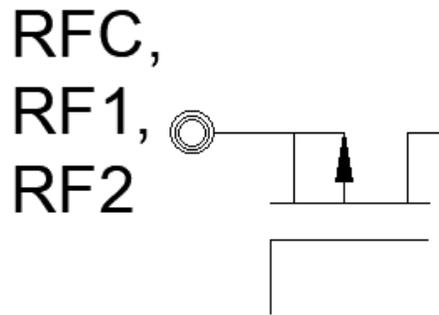
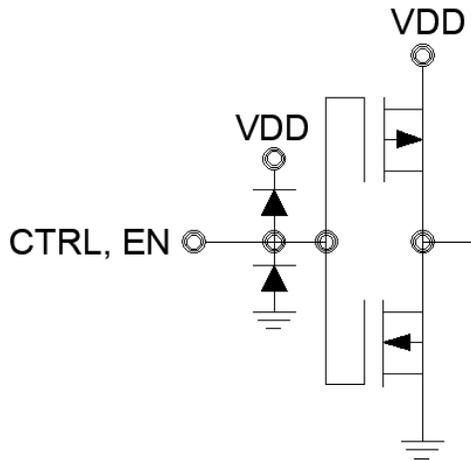

FIGURE 6. RFC, RF1, RF2 Interface schematic circuits
FIGURE 7. CTRL, EN Interface schematic circuits
- 4/ For power derating versus frequency, see figure 6 and figure 7. This power derating is applicable for insertion loss path, isolation path, and hot switching power specifications.